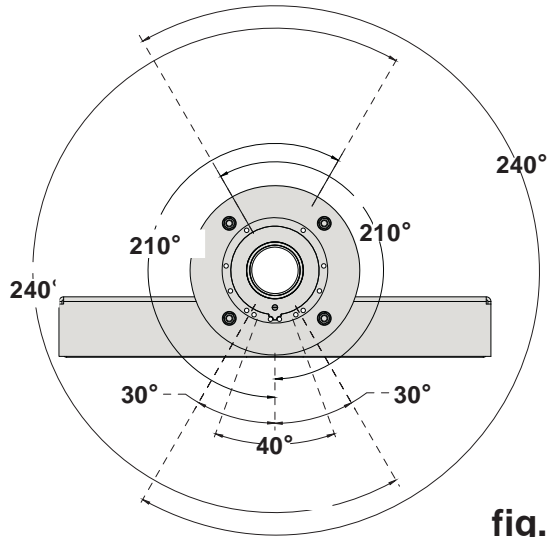

fig. 4.1
4 Referring to fig. 4.1 and 4.2, select the desired swivel degree. Fasten two set screws (K) where indicated below to the outside of desired angle in steel base (C).
**NOTE:** Set screws (K) must be bottomed out into base.